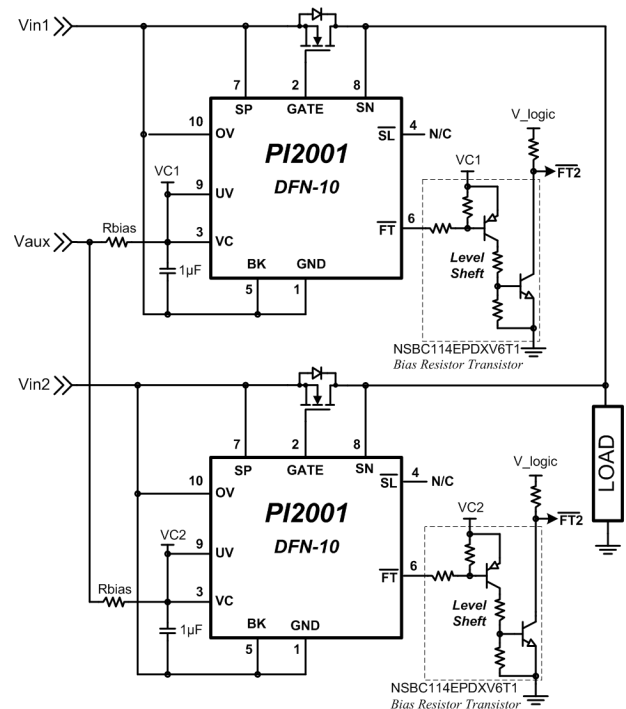

Figure 16: PI2001 in floating application: example 2
1. A single PI2001 with suitable external MOSFET for each redundant 12V power source should be used, configured in a high-side floating configuration as shown in the circuit schematic in Figure 16. The controller is floated on V_{in} by connecting the controller ground pin to the input voltage V_{in} .
7. **FT pin:** The FT pin output is referenced to the PI2001 GND pin which is connected to Vin. A level shift circuit can be added to make the FT pin output referenced to the system ground. The recommended level shift circuit is shown in Figure 16, The level shift circuit uses a Dual Bias Resistor Transistor circuit which is available as a small device that contains two transistors and their bias resistors, part number NSBC114EPDXV6T1.